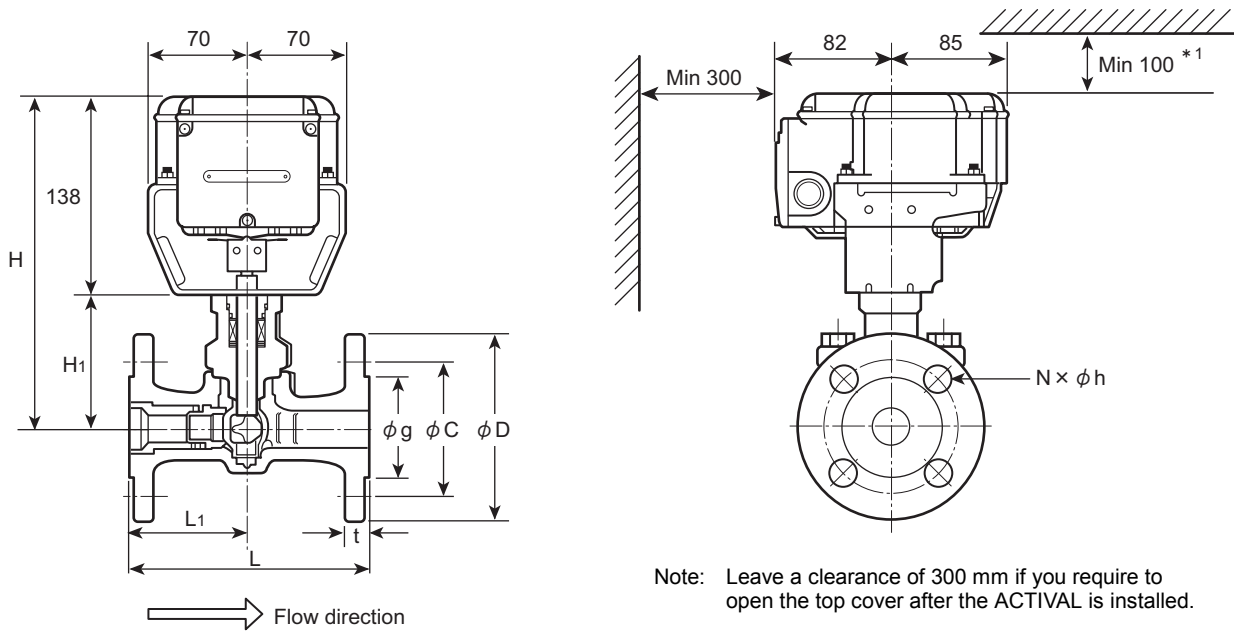

Figure 1. Dimensions (mm): Valve body (JIS FCD450)
- 2) Install the ACTIVAL in a position allowing easy access for maintenance and inspection. Fig. 1 shows the minimum clearance for maintenance and inspection. When installing the ACTIVAL in a ceiling space, place a drain pan under the valve.